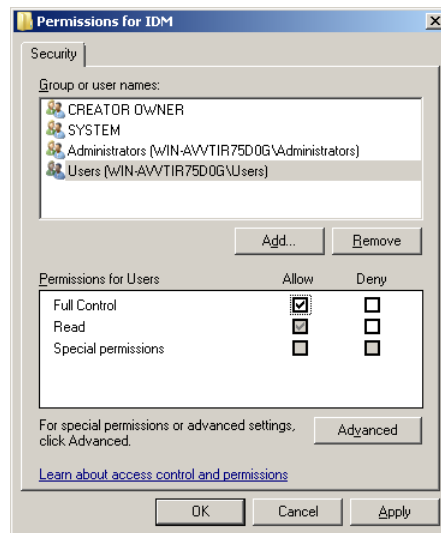

Figure 2-4: IDM Permissions Window
- d. Select the **Users** account and under *Permissions*, select **Allow** for the Full Control option, as shown in Figure 2-4.